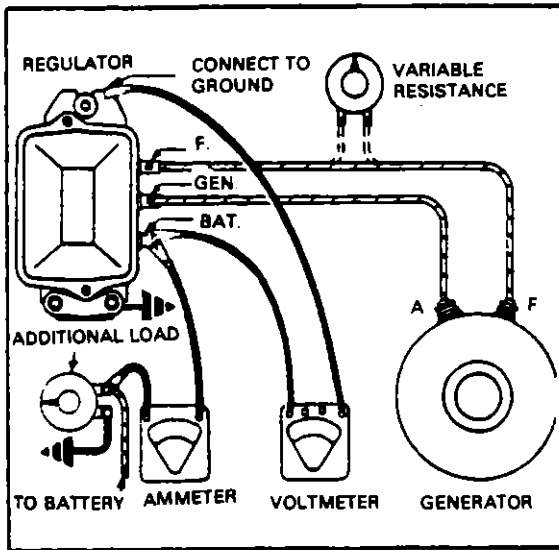

Figure 11-14. Checking Current Regulator, Load Method
- (a) Connect ammeter into charging circuit as in Figure 11-14.